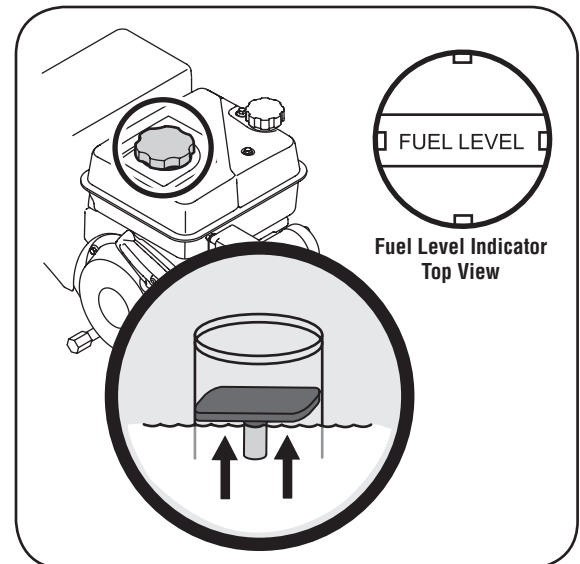

Figure 2-4: The fuel level indicator
2. A fuel level indicator is located in the fuel tank. Fill tank until fuel reaches the fuel level indicator, Figure 2-4. Be careful not to overfill.
1. Insert ignition key fully into slot, Figure 2-4. Make sure it snaps into place. **DO NOT** turn ignition key. The engine cannot start unless the key is inserted into ignition switch.